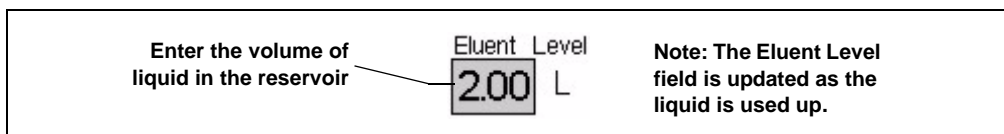

Figure 3-7. Home Page: Setting the Eluent Level
- On the **HOME** page in the **Eluent Level** field (see Figure 3-7)